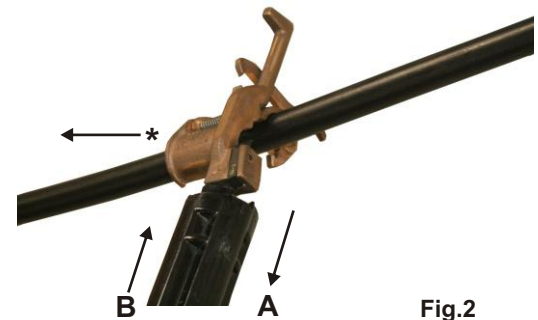

Fig.2
2. Stripper is now placed over cable again. A downward movement (A) of shotgun will release latch. An upward movement (B) of shotgun will then allow stripper to lock in a closed position. (Fig.2)